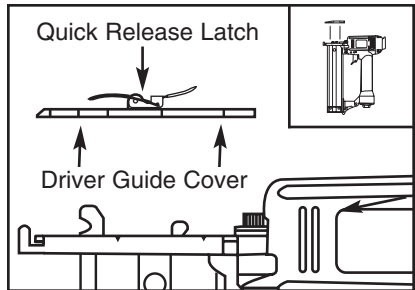

Figure 5. Removing guide cover.
3. Flip the quick release latch on the nose of the pliers, and remove from the nose as shown in **Figure 5**.